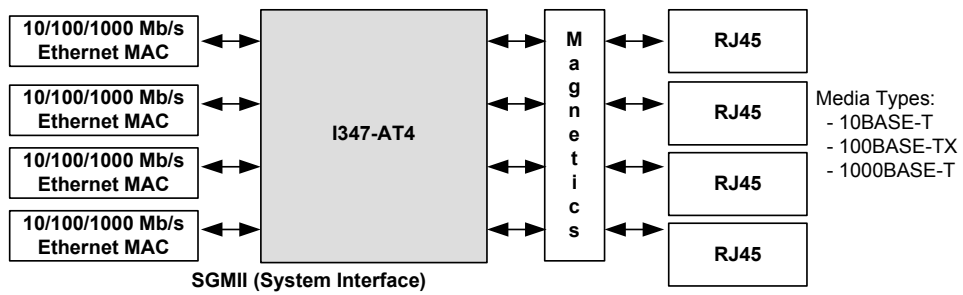

Figure 2. SGMII (System) to Copper – Quad Port Mode
- Two or four ports SGMII-to-copper (see Figure 1 and Figure 2)